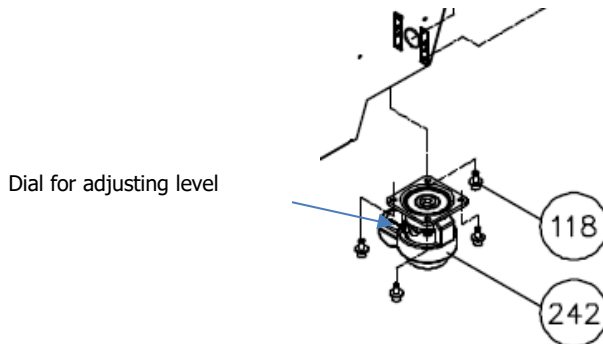

Figure 6: Typical Caster
1. The (typical) machine is supplied with four casters, installed, which can be used to level the machine. Level the machine by rotating the dial on the caster, Fig. 6. *NOTE: When casters are factory installed, you can skip ahead to #3, "cleaning".*